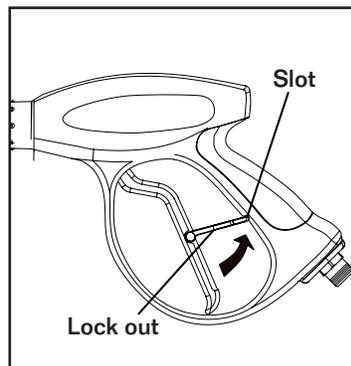

Fig. 10
**USING THE SPRAY GUN (SEE FIG 10 & 11)**